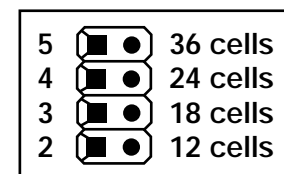

FIGURE 4.3-Close up of jumpers for changing cells
- 4) Move the jumpers to the desired number of cells, as shown in Figure 4.3.